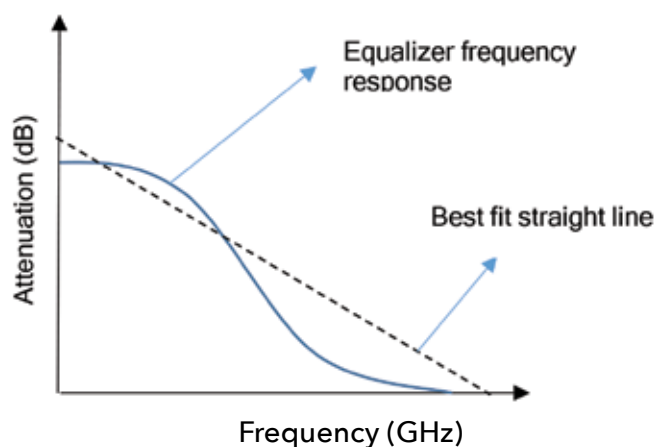

Figure 3: Negative slope equalizer
- **Negative Slope Equalizers (Figure 3)** exhibit an insertion loss response that decreases with frequency. This type of equalizer is used to equalize amplifiers or systems with negative gain slope, as in the example below.